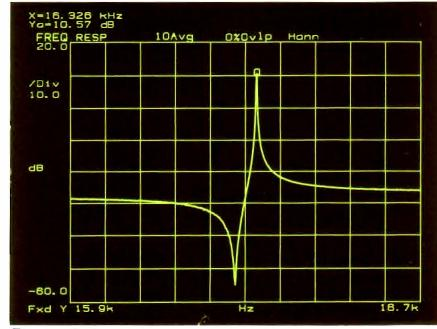

Figure 2-4
4. Start Press the **START** key. The zoom measurement will be displayed. For better resolution, repeat the above process using the X-axis marker, or by numeric entry of a new frequency span. Figure 2-4 shows a zoom measurement of the crystal filter at a span of 800 Hz (1Hz resolution).